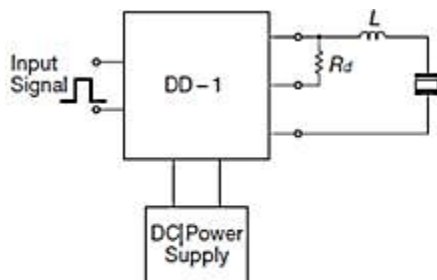

Fig. 6 Schematic of DD-1 connection
2. In case of digital drive circuits; refer to Fig.6 & 7
The optimum R_d value on Fig. 6 and 7 can be obtained by actual experiment basis, and in fact, it is expected to be between a few [Ω] to 200[Ω].